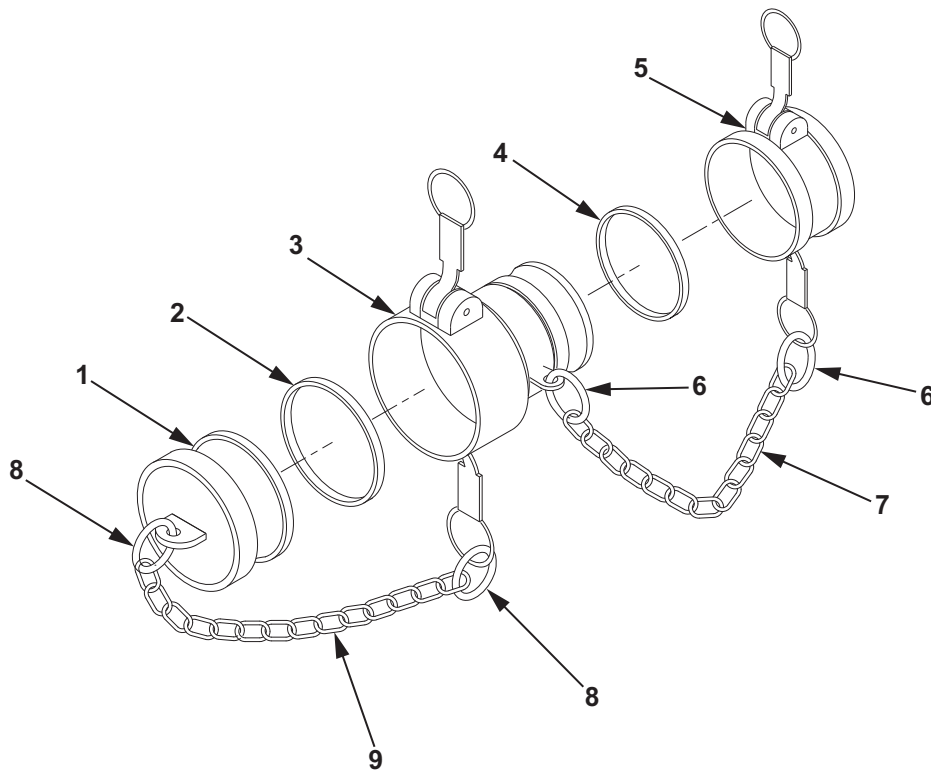

Figure 2. 4 In. Female X 3 In. Male Reducer Disassembly.
1. Install split rings (Figure 2, Item 6) on chain (Figure 2, Item 7).
2. Install split rings (Figure 2, Item 6) on 3 in. dust cap (Figure 2, Item 5) and reducer assembly (Figure 2, Item 3).
3. Install split rings (Figure 2, Item 6) on chain (Figure 2, Item 7).
4. Install split rings (Figure 2, Item 6) on 4 in. dust plug (Figure 2, Item 1) and reducer assembly (Figure 2, Item 3).
5. Install new gasket (Figure 2, Item 5) into 3 in. dust cap (Figure 2, Item 3).
6. Install new gasket (Figure 2, Item 4) into reducer assembly (Figure 2, Item 2).
7. Install 3 in. dust cap (Figure 2, Item 3) on reducer assembly (Figure 2, Item 2).
8. Install 4 in. dust plug (Figure 2, Item 1) in reducer assembly (Figure 2, Item 2).